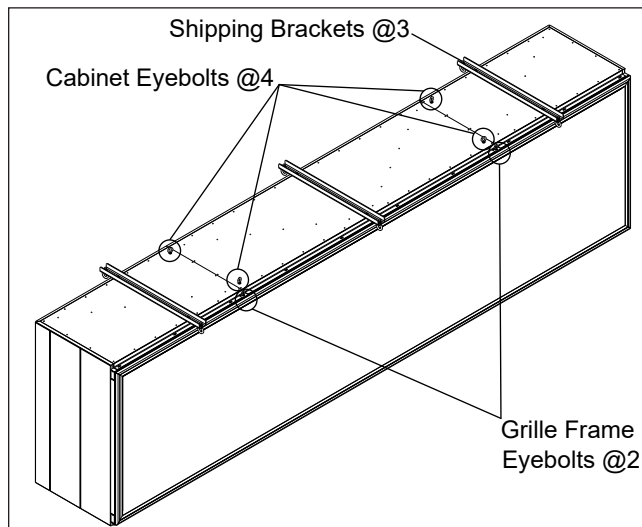

Figure 6: Eyebolts & Shipping Brackets
The Sportsound 2000HD cabinet is shipped with four (4) 5/8" lift eyes for lifting it into place (**Figure 6**).